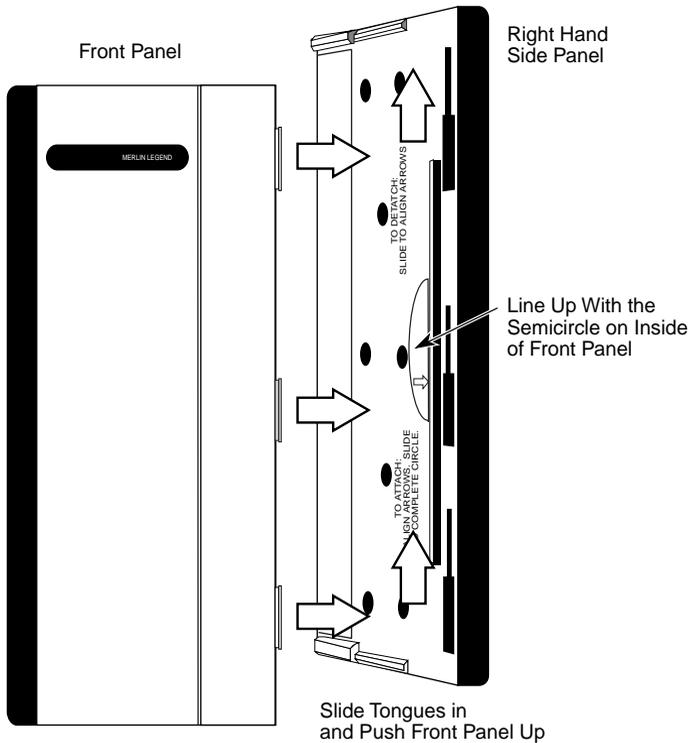

Figure E-2. Installing the Control Unit Housing
- b. Slide the panels until the semicircles form a complete circle. See Figure E-2.